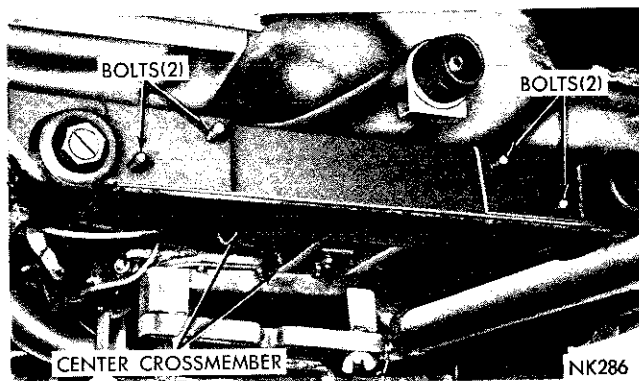

Fig. 15—Removing or Installing Center Crossmember (Auto. Trans. Shown)
- (1) Drain the lubricant from the transmission.
- (2) Disconnect the propeller shaft, speedometer cable and housing and the gearshift control rods. **Remove speedometer cable (pinion comes out with cable) with hand so that housing is not crushed.**
- (3) Remove the back-up light switch leads (if so equipped).
- (4) Install engine support fixture C-3487, mounting firmly into the holes in the side frame members with the support ends up against the underside of the oil pan flange.
- (5) Raise the engine slightly with the support fixture. Disconnect transmission extension housing from the removable center crossmember.
- (6) Support the transmission with a suitable jack. Tap out the four long bolts and remove the center crossmember (Fig. 15). Remove the bolts that attach the transmission to the clutch housing.
- (7) Slide the transmission rearward until the pinion shaft clears the clutch disc before lowering the transmission. (This precaution will avoid damaging the clutch disc).
- (8) Lower the transmission and remove from under the vehicle.
- (9) Remove the rear motor support and crossmember, then mount the transmission in repair stand DD-1014.